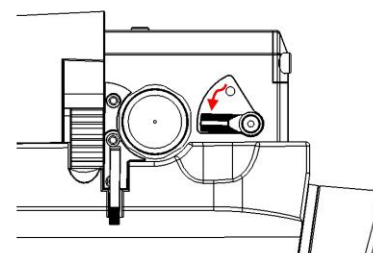

FIG.2
- ❖ Push the safety lever in the direction of the arrow to the "SAFE" position. The safety is ON, the trigger is blocked and the rifle cannot be fired. (FIG.2)